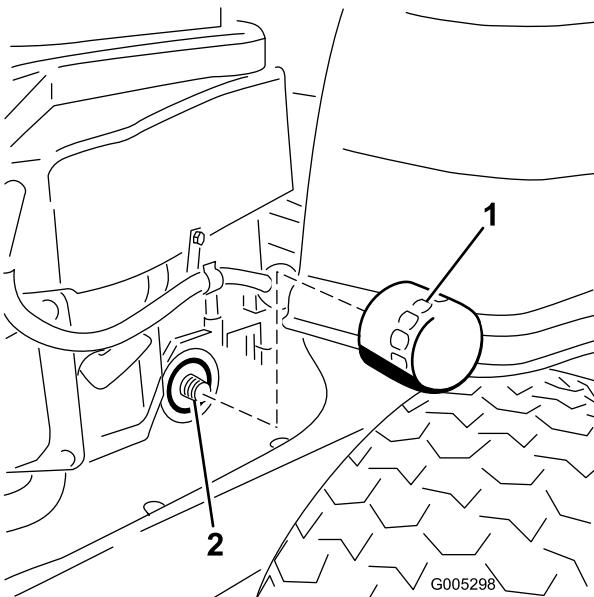

Figure 31
10. Locate the oil filter on the right side of the engine. Remove the old filter and wipe off the filter adapter with a clean cloth (Figure 31).
12. Install the replacement oil filter to the adapter. Turn the oil filter clockwise until the rubber gasket contacts the pad, then tighten the filter an additional 3/4 to 1 turn (Figure 31). Wipe up any excess oil on the frame.